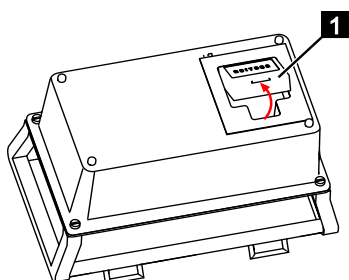

Fig. 216
2. Remove the discharged battery (Fig.216/1) from the back of the radio control.